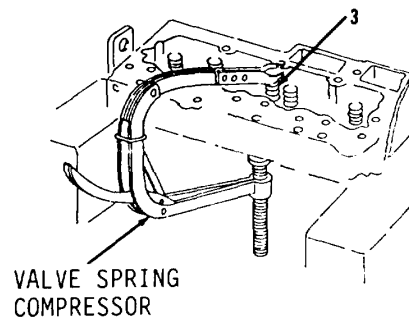

Figure 3-64.
1. Position valve spring compressor on valve spring (3, Figure 3-64) and bottom of valve on cylinder head.
2. Compress valve spring (3).